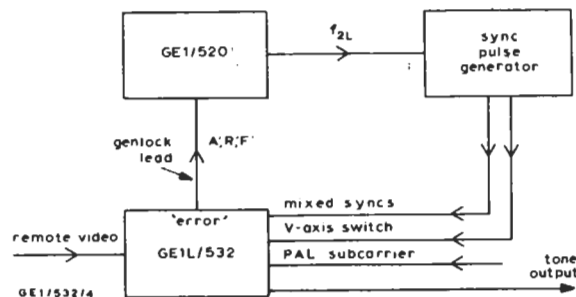

Fig. 4. Test circuit for the GE1L/532
1. Interconnect the equipment and pulses as shown in Fig. 4.